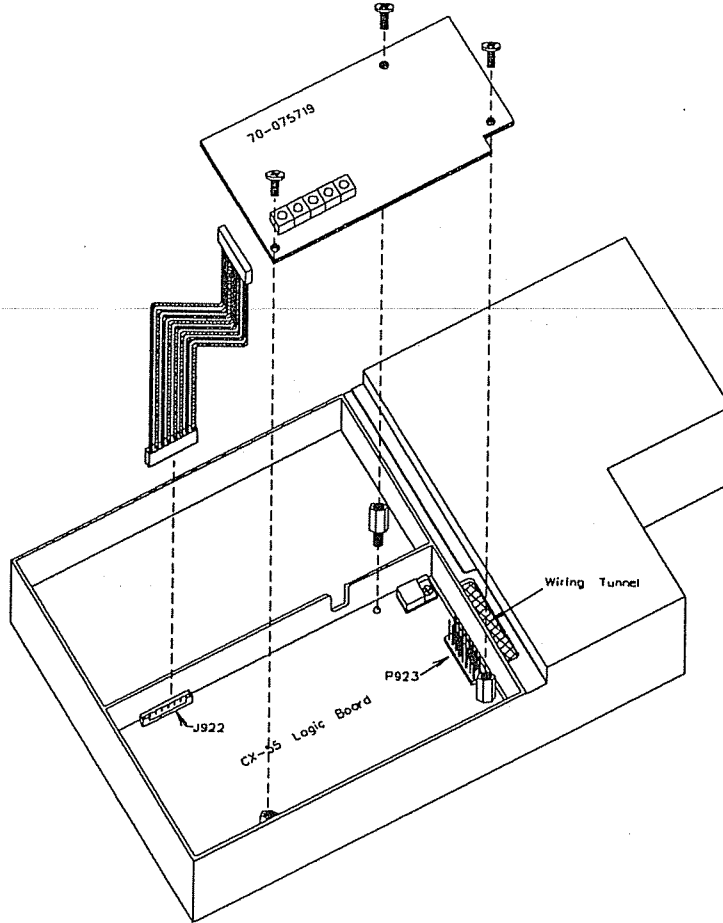

Figure 1
3. The CX-55 logic board is the one closest to you. Remove the three phillips head screws as shown in **Figure 1**, and replace with the 13 mm long standoffs (MPN 70-156132). Save the screws; they'll be used later.